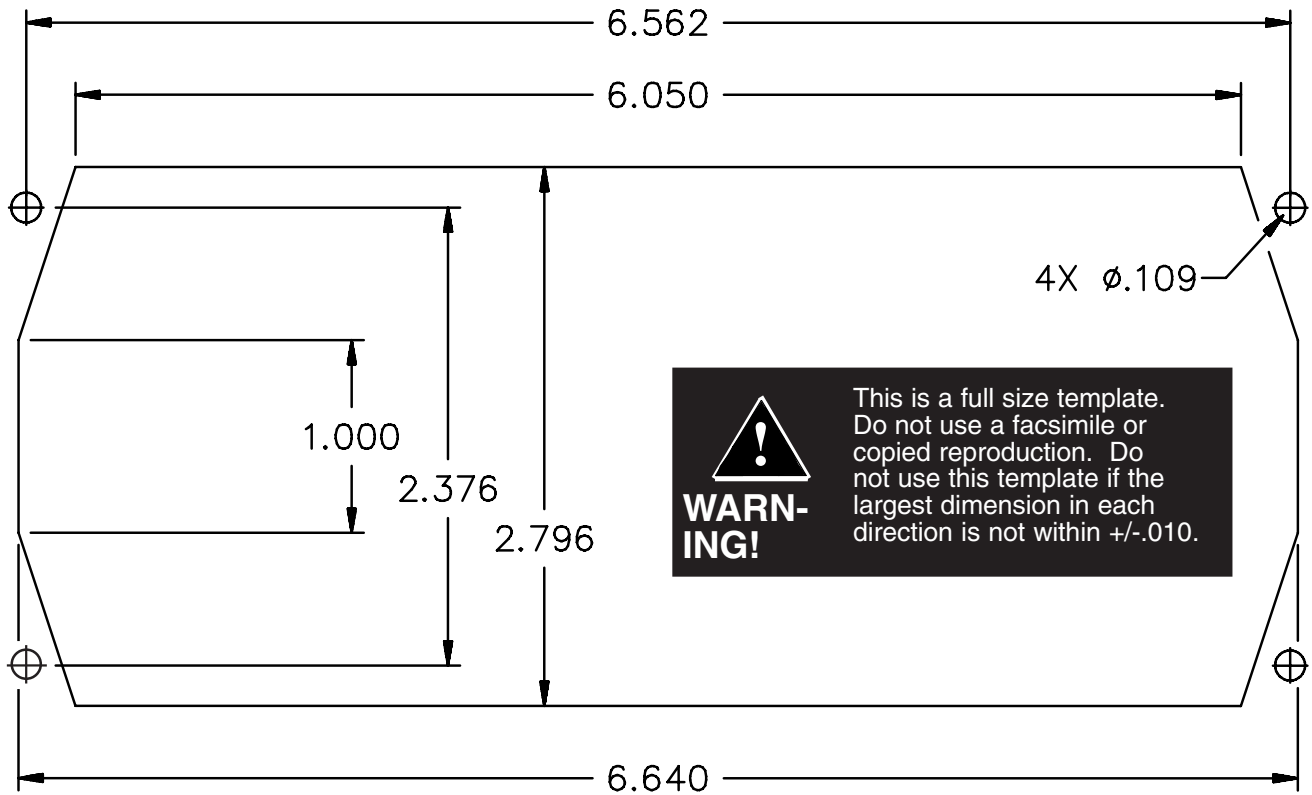

FIGURE 2
3. Cut the opening and drill the holes, use Figure 2 template or the trim bezel if your light head is so equipped.